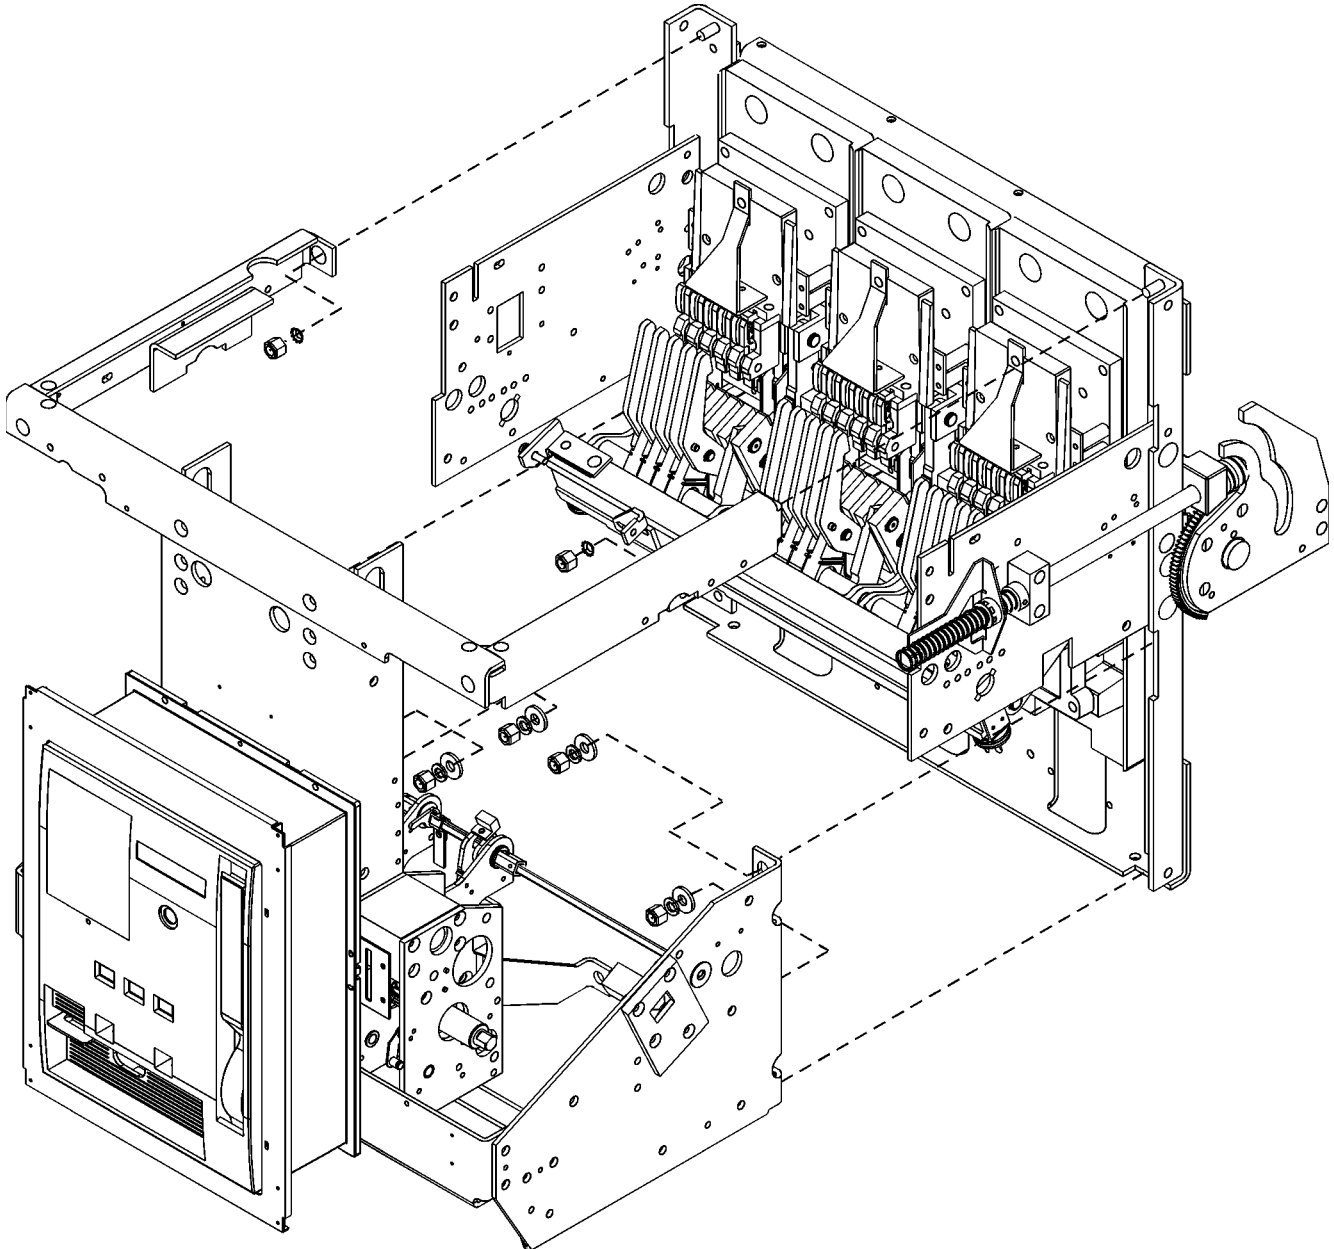

Figure 5-11. Separating the front frame from the back frame.
17. Remove the six sets of nuts and washers connecting the front frame to the back frame, as illustrated in Figure 5-11.
1. Place the breaker back frame on the work surface, resting on the primary disconnects. Lower the front frame into position, lining up the corresponding holes with the six mounting studs in the back frame, as illustrated in Figure 5-11. Attach the six sets of nuts and washers to the mounting studs and tighten to 30 ft-lbs.